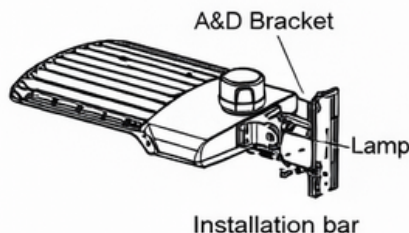

Figure 15
Step 1: Remove the four rubber p144pe, remcoe the four rubber plugs from installation bar, put the four rubber plugs on the places where the four bolts were previously placed on the bracket for waterproof purpose (Figure 15) -- -- ADM bracket for waterproof purpose (Figure 15)